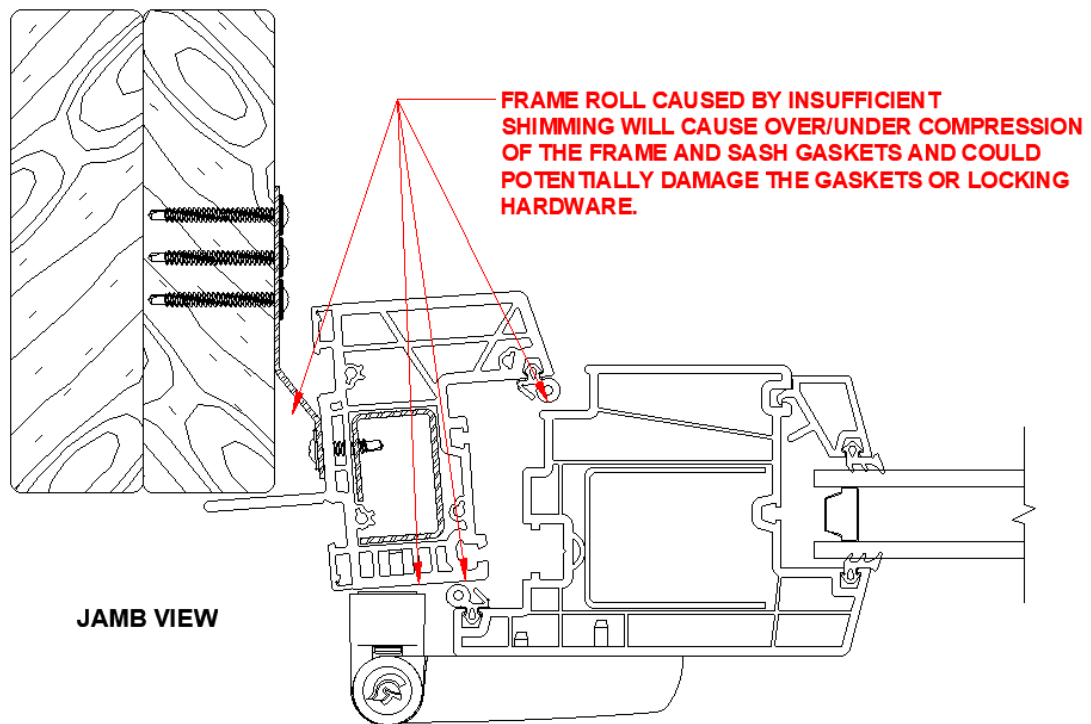

Figure 12: Jamb View: Steel Strap Door with Frame Roll
D) *Figure 12* below shows a door that lacks proper shimming and is experiencing frame roll. Over shimming will create the same effect in the opposite direction. Shimming the door correctly is required and is critical to establishing a properly performing door system. If shims are absent or not done properly it will void the warranty.